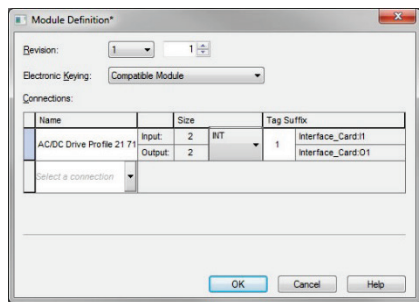

Figure 51: AOP AC/DC Drive Profile Module Definition
- 3) Configure the AC/DC Drive Profile connection. Refer to Figure 51.